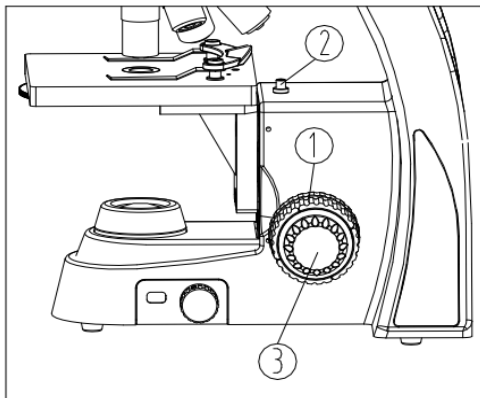

Fig.9
2. Observe the right eyepiece with right eye, rotate the coarse focusing knob 1 until the specimen outline appears in the view field (see Fig. 9).